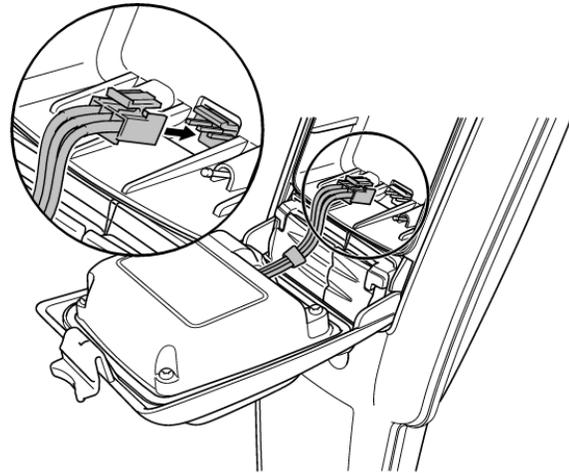

Figure 4.7: Connecting the Li Ion lead
- 2 If using a Li-Ion battery pack un-plug the lead connector (Refer to Figure 4.7).
If using the Li-ion battery pack, plug the lead into the battery connector (Refer to Figure 4.7).